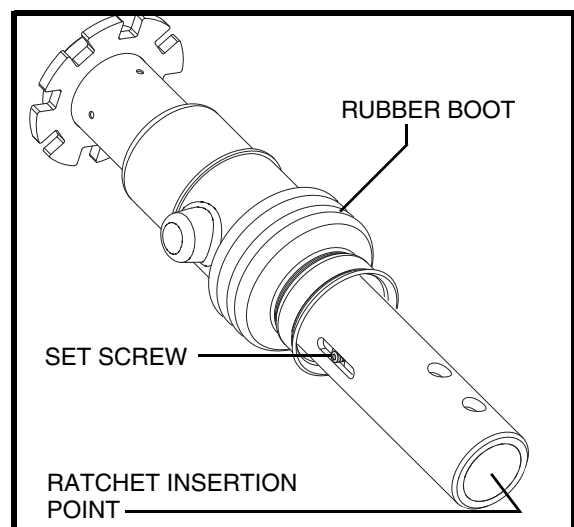

Figure 19. Seat Suspension Adjustment
The seat post acts as a shock absorber and can be adjusted for different degrees of ride comfort. Use the set screws that are visible through the adjustment window on the side of the post as a guide when making adjustments. Slide the rubber boot towards the top of the post to expose the set screws. **See figure 19.**
3. Insert a 13 mm socket with an extension into the bottom of the post. **See figure 19.**